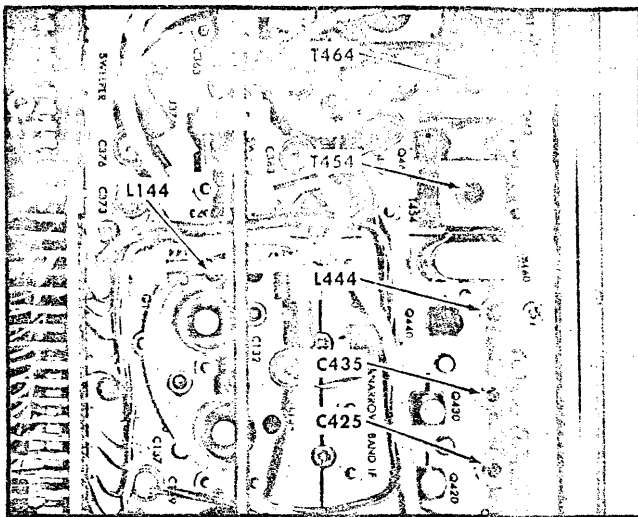

Fig. 6-8. Location of the IF amplifier peaking adjustments.
d. Adjust L144 (wide band amplifier) and T464, T454, C435, C425 (narrow band IF amplifier) Fig. 6-8, in the order listed for maximum signal amplitude.